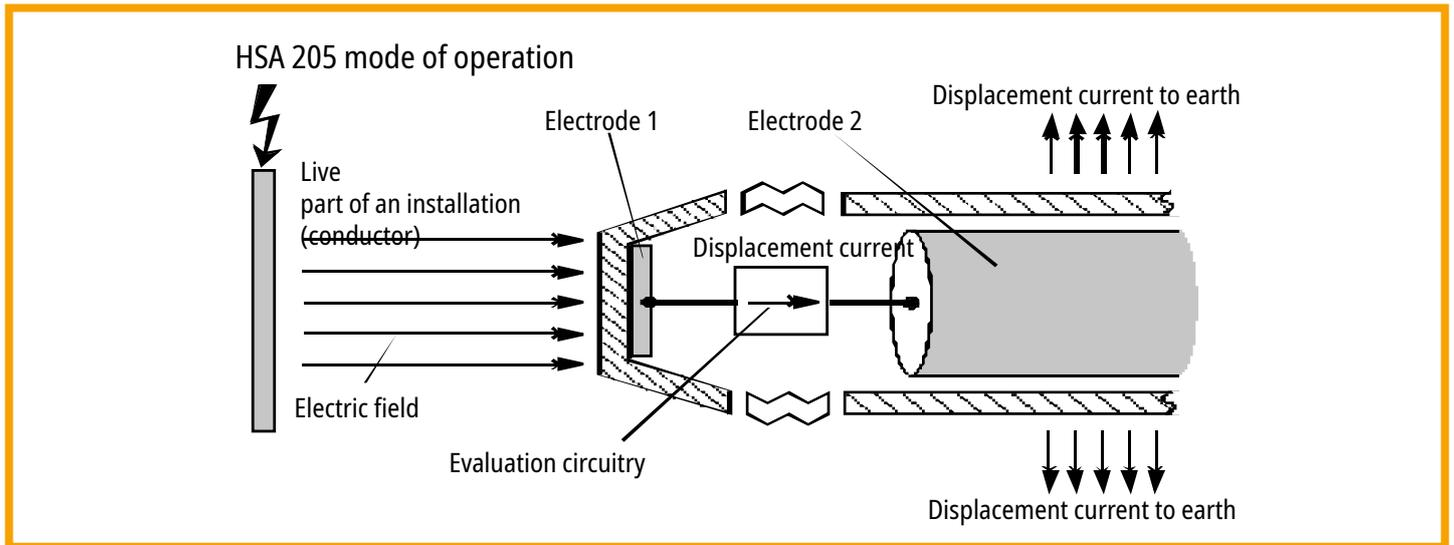

Bild 5 Functional principle
If the HSA 205 high-voltage indicator is introduced into such an alternating electric field, an input current I_E flows via the measuring electrodes E_1 (electric field sensor), which is further processed in the downstream electronics (E_2). If the input current I_E exceeds a certain setpoint, the HSA 205 high-voltage indicator emits an intermittent visual (red LED) and acoustic (sound) signal increased by a factor of ten (see Figure 5).
- ⇒ Release the axial flat head screw in the cap (Figure 5, page 10) and remove the cap.